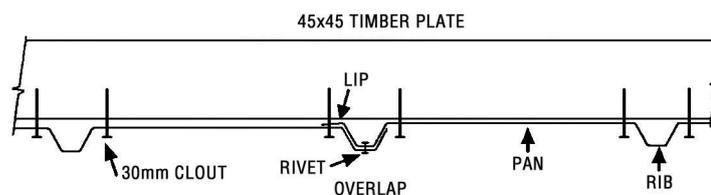

fig. 1
Step 6: Position a Jack Stud on each end of Ridge Beam and nail in place using two 75mm nails each end (*fig. 1*). Turnover Ridge Beam / Jack Studs, position centrally on 2.545m Top Plates and nail to Top Plates using two 75mm nails per Jack Stud.
When fitting Gable End Sheets ensure they overlap correctly (*fig 1*).
Step 2: Back Wall: Position the first Wall Sheet with the LIP on the right hand side. Ensuring the LIP is flush with the side of the Studs and the top of the Wall Sheet is flush with the top of the Top Plate, tack in place. Position the next Wall Sheet with the LIP on the right hand side. Overlap as shown in (fig 1). Ensuring Wall Sheet is flush with top of Top Plate, tack in place. Repeat with remaining sheet.